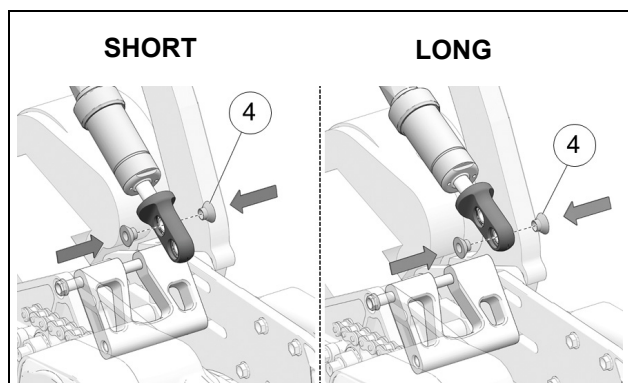

Figure 26
- Insert the two spacer bushings (4) in the holes that will produce the optimal mounting position while keeping inside the maximum allowable rod end length. See Figure 26.